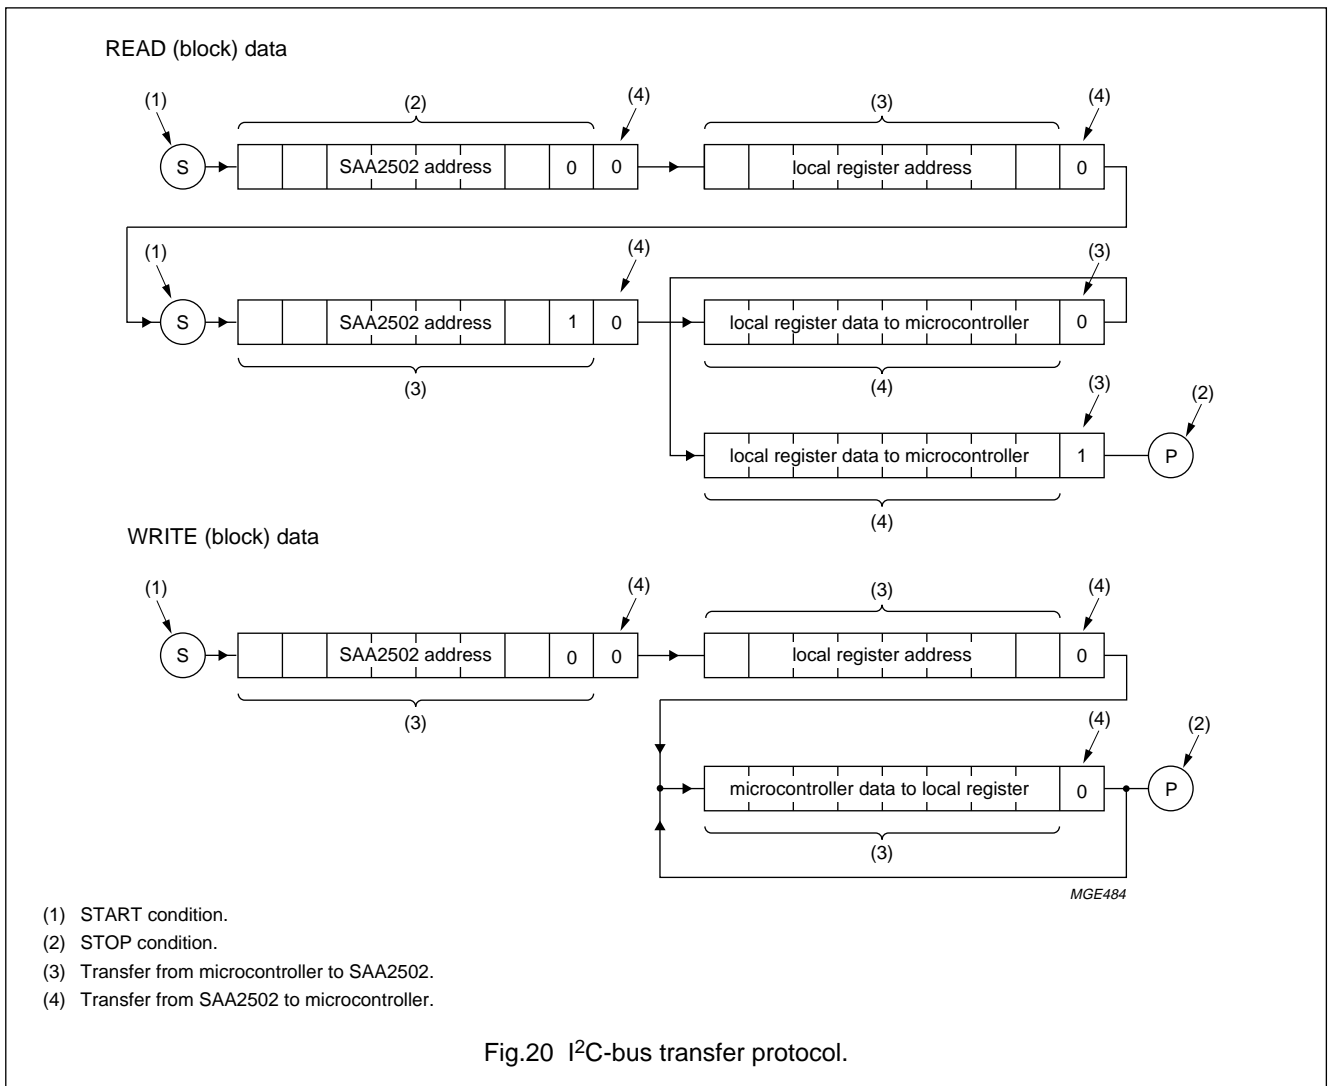

Fig.20 I²C-bus transfer protocol.
7.6.5.2 I²C-bus transfer protocol (see Fig.20)